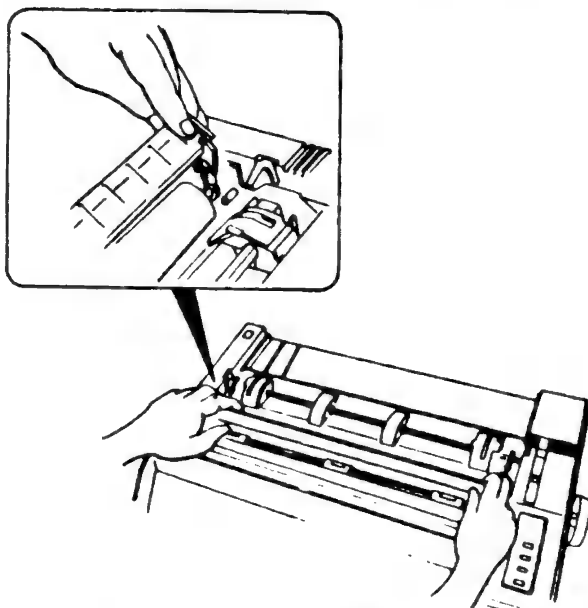

Figure C-2 Removing the Bail Roller Unit
5. Refer to Figure C-2. Remove the Bail Roller Unit by rotating it towards the front of the printer, to snap it out, and then pull it upwards, to remove it.